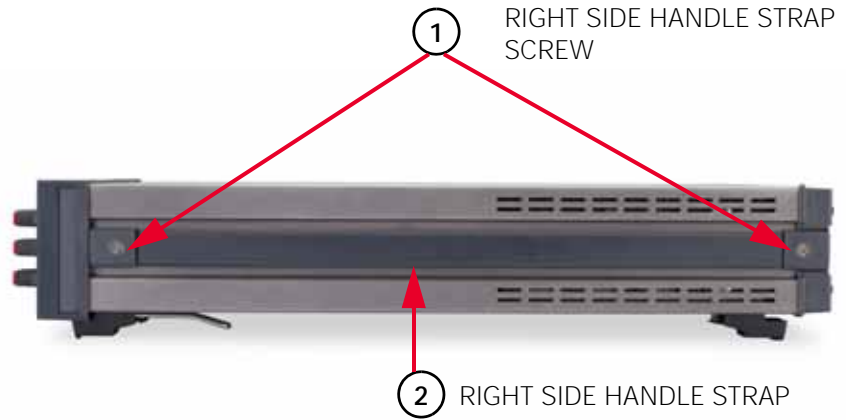

Figure 3-1 Right side handle removal/installation
The label numbers in Figure 3-1 to Figure 3-6 show the order of cover removal. Use reverse order for installation.
- 3 Refer to Figure 3-1. Turn the instrument so its right side (as seen from the front) faces you.
- 18 Refer to Figure 3-1. Turn the instrument so its right side faces you.